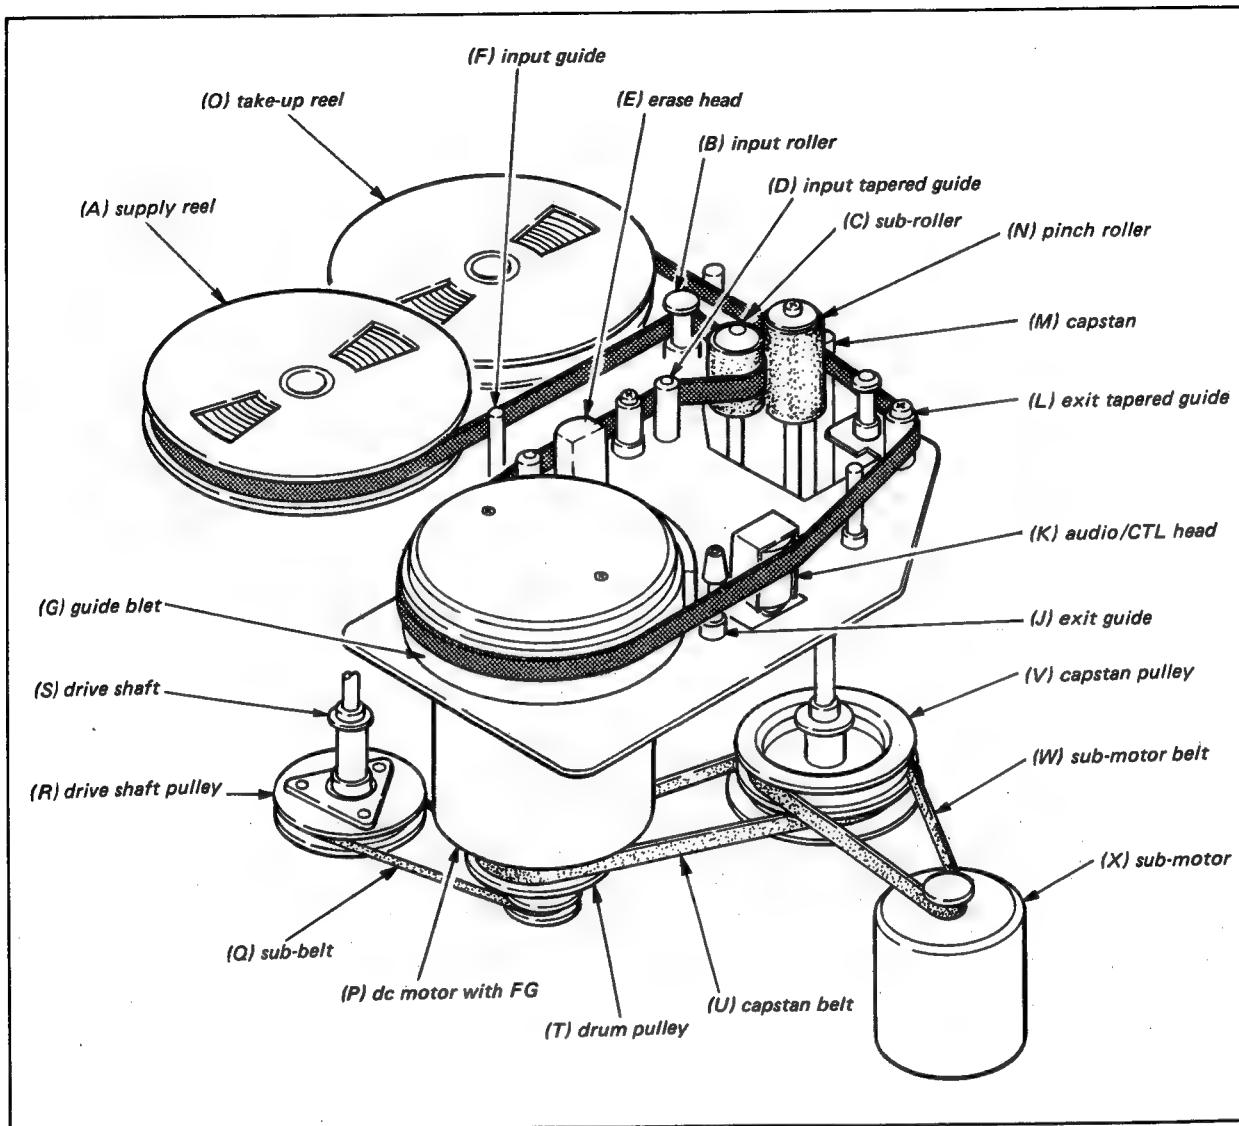

Fig. 9-1 Tape path
The tape path is shown in Fig. 9-1.
The tape, placed on the Supply Reel Table (A), takes a path as shown in Fig. 9-1 and is wound onto the Tape-Up Reel Table (O).
Drive is transmitted from the Head Motor to the Take-Up Reel as described below. Refer to Fig. 9-1. The Sub-Belt transfers drive from the Drum Pulley on the Head Motor to a Drive Shaft Pulley on the Drive Shaft. The Take-Up Belt and Take-Up Pulley couple drive torque to the Take-Up Reel.